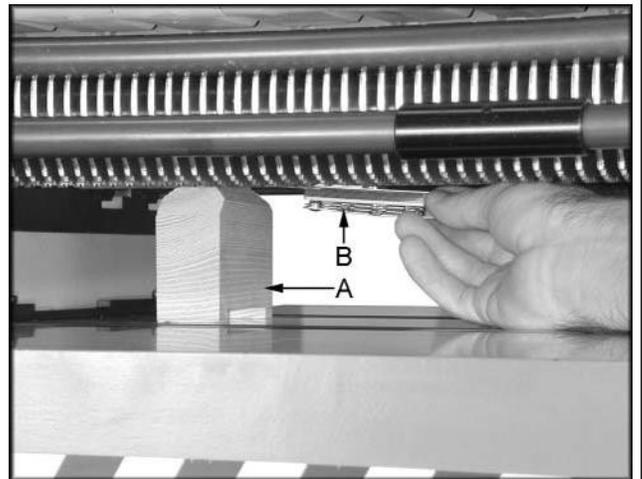

Figure 13
2. Place a hard wood gauge (A, Fig 13) under a knife in cutterhead.
3. Place a 0.02" feeler gauge (B, Fig 13) on top of wood block and raise table until feeler gauge contacts the knife in its lowest position.
2. Place a hard wood gauge (A, Fig 13) under a knife in the cutterhead.
3. Place a 0.02" feeler gauge (B, Fig 13) on top of wood block and raise table until the gauge contacts the knife in its lowest position.